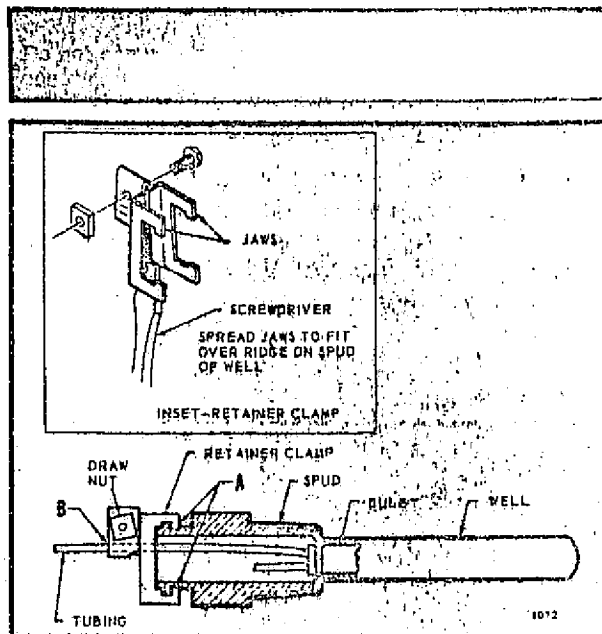
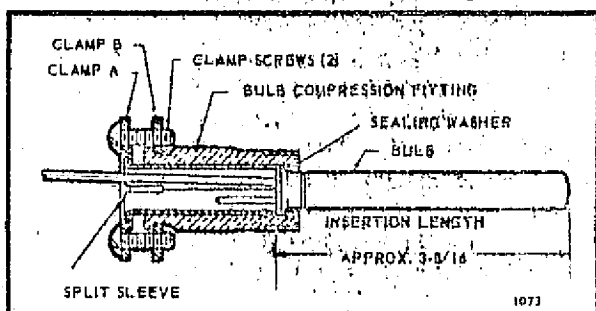
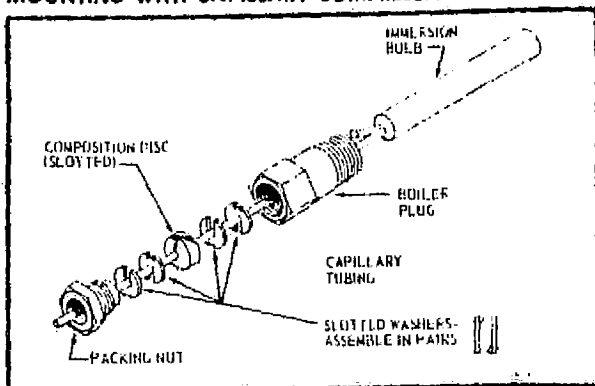

FIG. 5—IMMERSION WELL FITTING.
FIG. 6—BULB COMPRESSION FITTING. USE WITH MODEL L4008A, B, E, J, OR L6008A.
FIG. 7-CAPILLARY COMPRESSION FITTING. USE WITH MODEL L4008C,D,K, OR L6008C,E.
Bulb Compression Fittings (see Fig. 6) —
Capillary Compression Fittings (see Fig. 7) —
The remote temperature-sensing bulb can either be installed in an immersion well (Fig. 5) that extends into the boiler or tank, or it can be directly immersed in the liquid. For installations not using a well, secure the remote bulb with a bulb compression fitting (Fig. 6), or capillary compression fitting (Fig. 7).
Well, bulb compression fitting or capillary compression fitting must be ordered separately. Sizes available: 1/2 in., 3/4 in. NPT spud. Well, if used, must fit sensing bulb snugly for good thermal response. Insert bulb until it rests against bottom of well, then hold it there while tightening the tubing clamp. (See Fig. 5.)
4. Place composition disc and 4 slotted brass washers on tubing in the order shown in Fig. 7. Turn brass washers so that slots are 180 degrees apart.